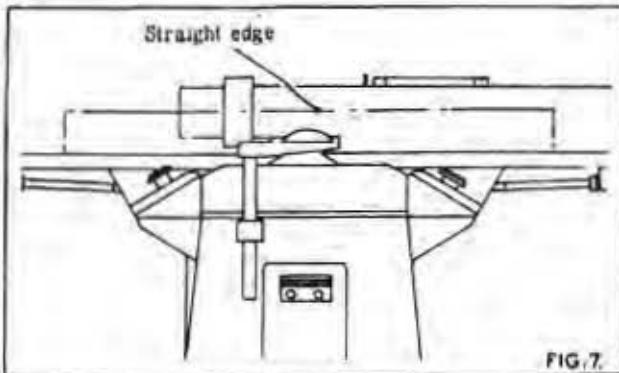

FIG. 7.
9. To check the setting of the knives, raise the back planing or $\frac{1}{16}$ in. above the outer surface of the cutterblock. Place a straight edge on the table as shown in FIG. 7 and rotate the cutterblock by hand until the knife just touches the straight. Repeat this check in various positions over the width of the table to ensure the knife is parallel. Repeat this procedure for all knives.